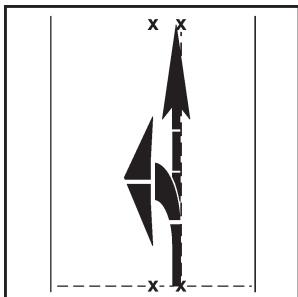

Figure 64
- Lay out the top two sections of the straight arrow above the base of the straight arrow (see Figure 64).